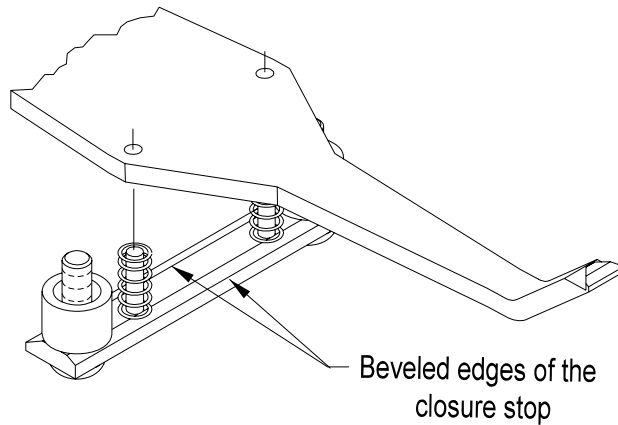

Figure 3.4
2. Be sure the beveled edges of the mount are against the closure stop as noted in Figure 3.4.